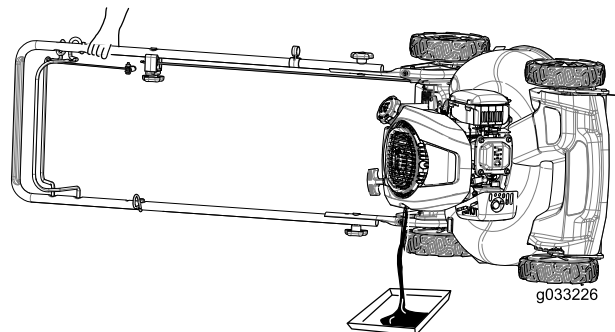

Figure 21
2. Tip the machine onto its side, with the dipstick down, to drain the used oil out through the oil-fill tube (Figure 21).